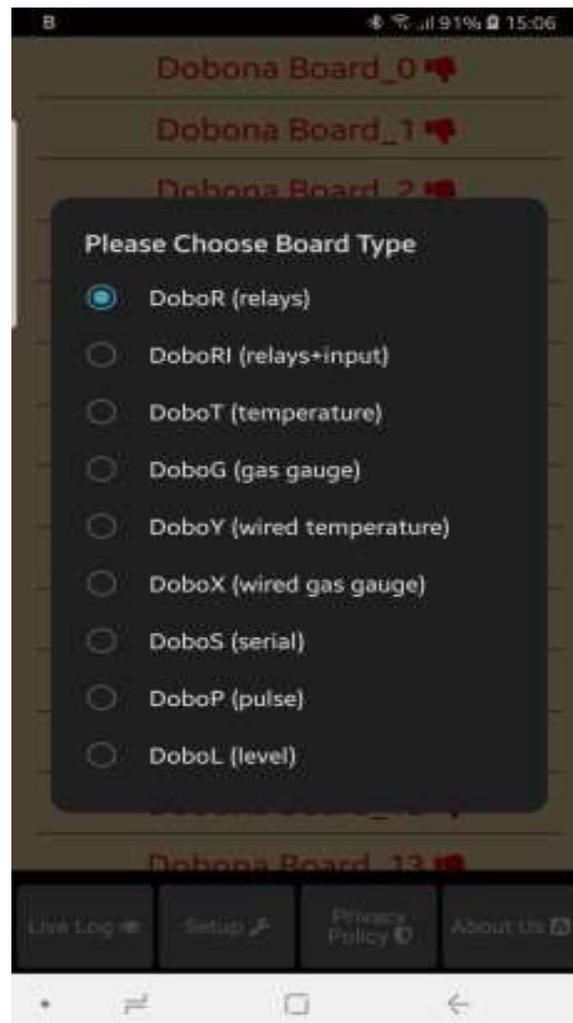

Fig 3.
6. In order to setup a board, the should press any of the red lines. Supposing he presses on the first line (Dobona board#1), after which he is presented with a popup screen to choose the board type (Fig.3). since we are interested in DoboL board only, the user should press the DoboL (level).